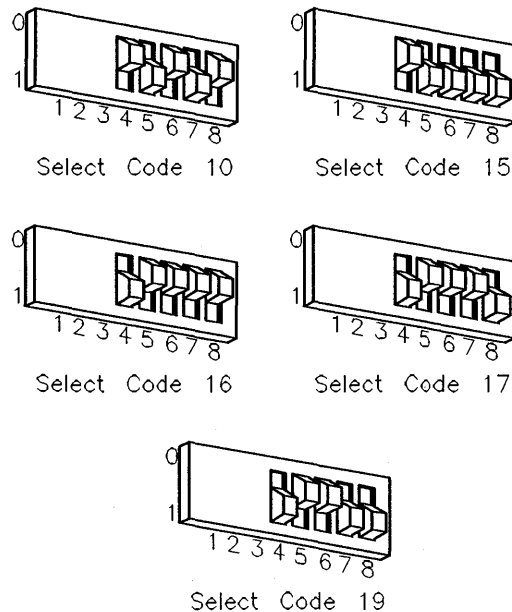

Figure 10-8. 4-Port Multiplexer Interface Card Select Codes
- Set these switches to one of the five select codes given in Figure 10-8, unless you have used them elsewhere (check the Select Code Record on the Step 5 tab to see which ones you have used). Refer to the installation note that came with the interface if you need additional switch settings.